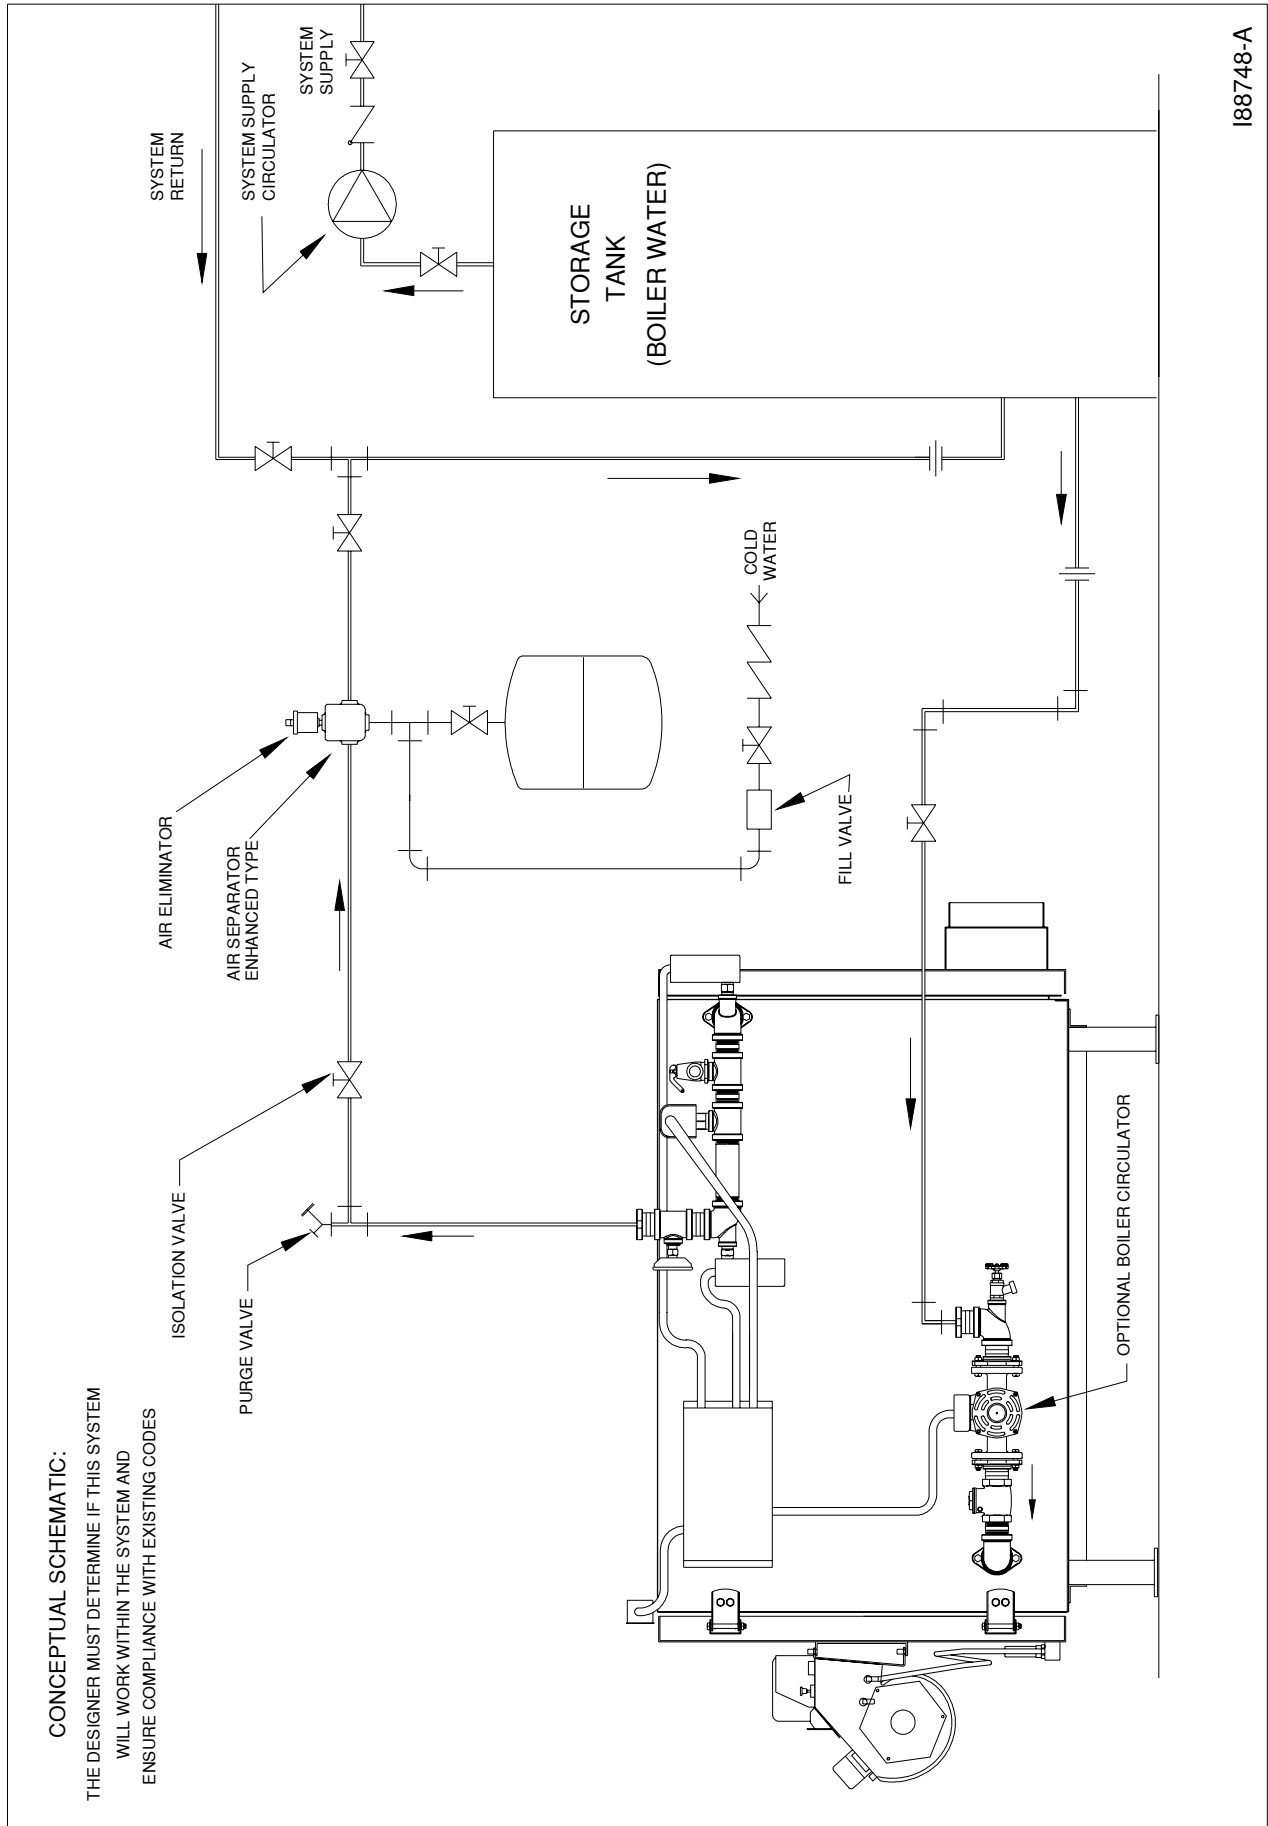

Figure 10B - Model CB-350-CTB with Additional Larger Storage Tank
(2) *In low load conditions, Clean Burn recommends the installation of a larger storage tank next to the CTB to extend the run time and to reduce the occurrence of short cycling. Position the tank close to the boiler to reduce the required connective piping as shown in sample configuration, Figure 10B.*